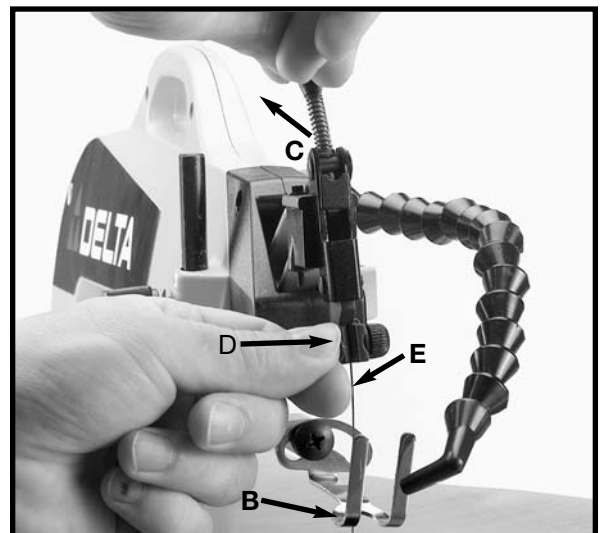

Fig. 27
Reassemble blade (E) Fig. 27, and tighten blade by moving lever (D) forward (closed). Move tension lever (C) to the rear as shown and lower holddown (B). You are ready to make the next inside cut.